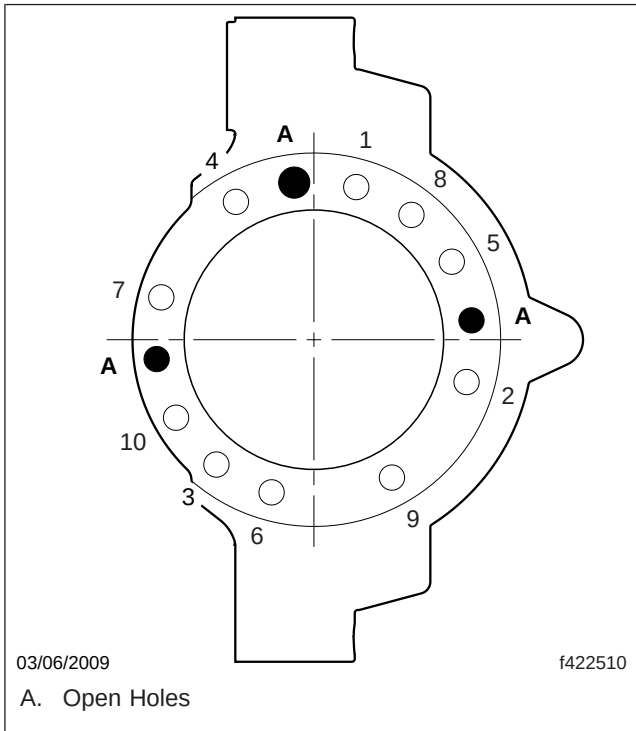

Fig. 3, Tightening Sequence
- Position the anchor plate on the axle flange with the ABS sensor hole at the 12 o'clock position on the axle flange. Install the ten capscrews, washers, and nuts, leaving the holes at 1, 2, 3, and 9 o'clock positions empty. Tighten 144 to 164 lbf-ft (195 to 222 N·m), using the sequence shown in Fig. 3.